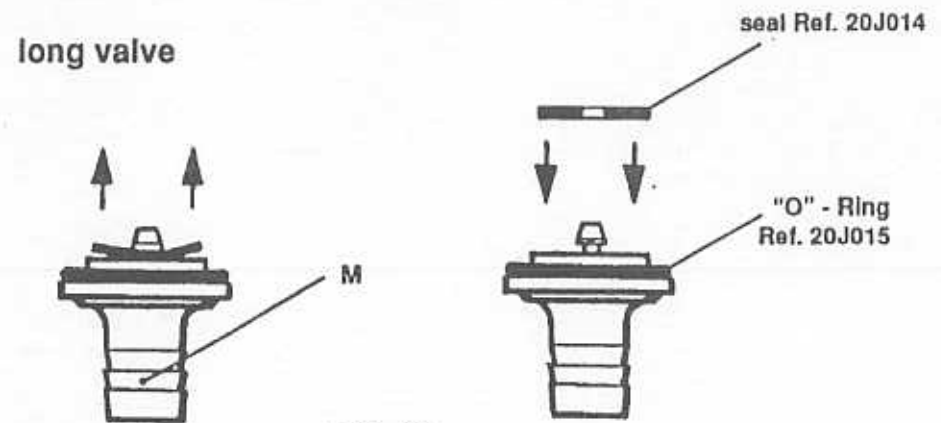

FIG. 20
3°) - Change the seal Ref. 20J014 of the long valve in the same way as for the short valve (Fig. 20).
- Change the "O" - ring Ref. 20J015 (Fig. 20).